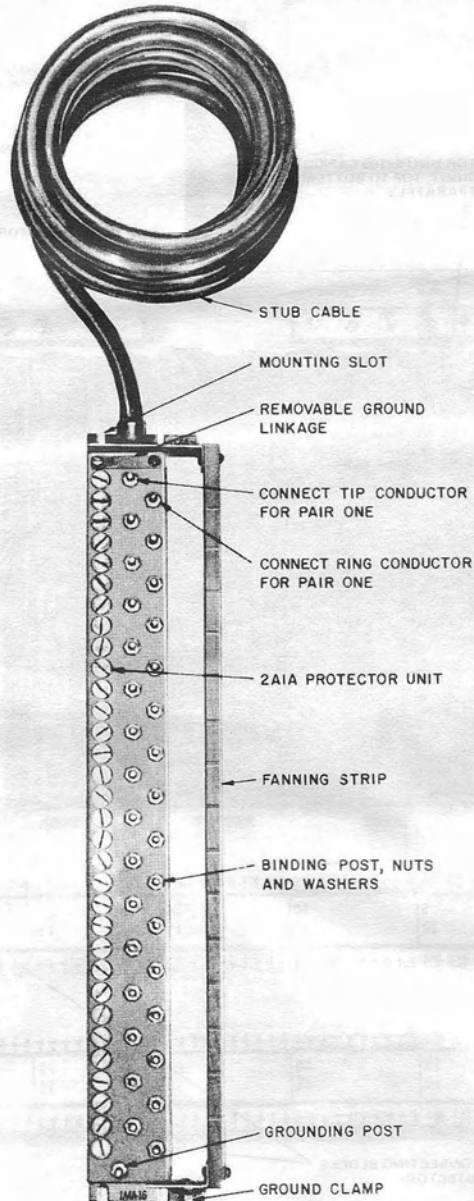

Fig. 12—1A4A-16 Terminal Block
3.19 The 1A4A-type terminal blocks (Fig. 12) are available in 10-, 16-, 25-, and 50-pair sizes (Table C). The terminal blocks may be mounted in cable terminal boxes or cable terminal sections. The